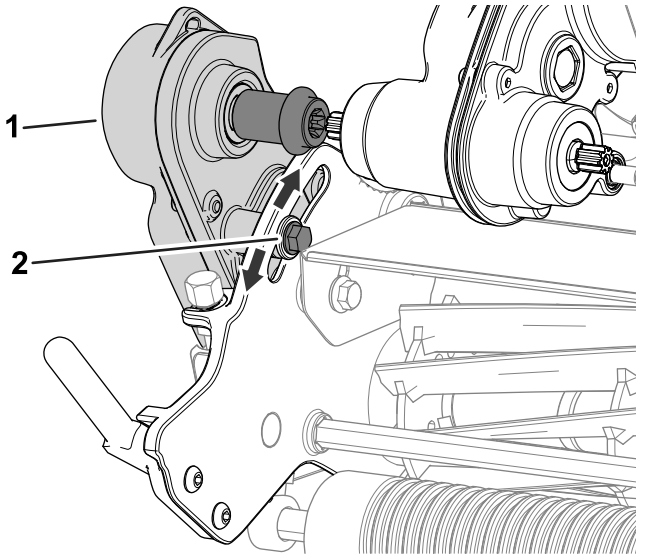

Figure 47
1. Loosen the bolt shown in Figure 47.